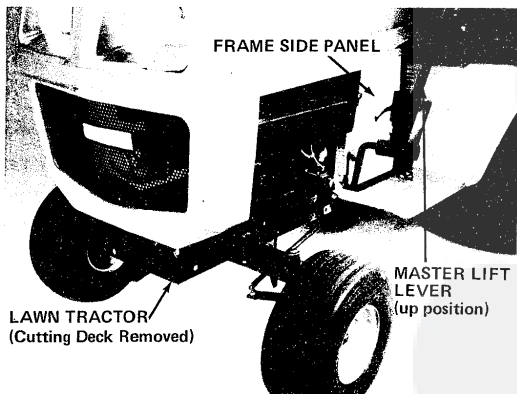

FIGURE 7
2. Remove cutting deck and belt from lawn tractor. Mark all loose parts and save for re-assembly. Refer to Lawn Tractor Owners Manual for cutting deck removal. See Figure 7.
5. Remove master lift lever by loosening two set screws and then remove frame side panel. See figure 7 and 10.
7. Re-assemble frame side panel and master lift lever removed in step 5 and return master lift lever to the up (back) position as shown in figures 7 and 12.